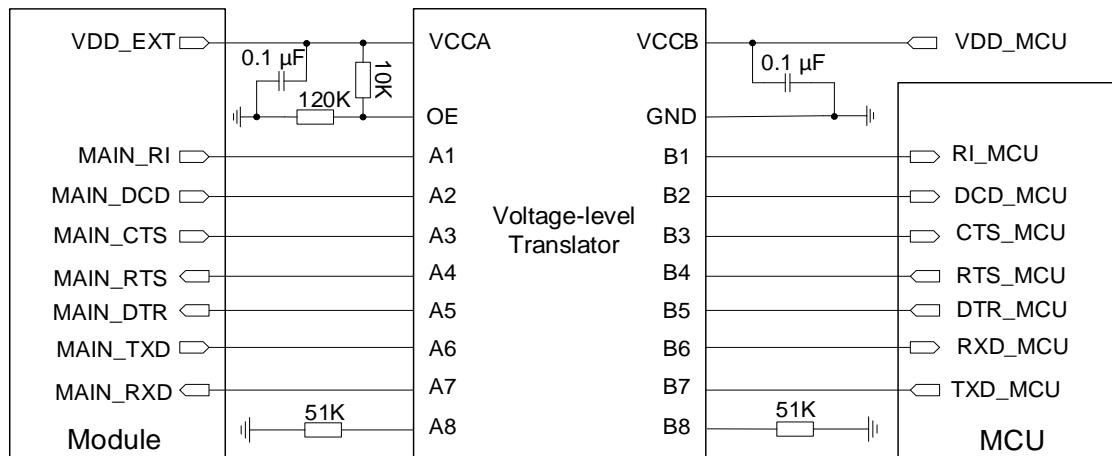
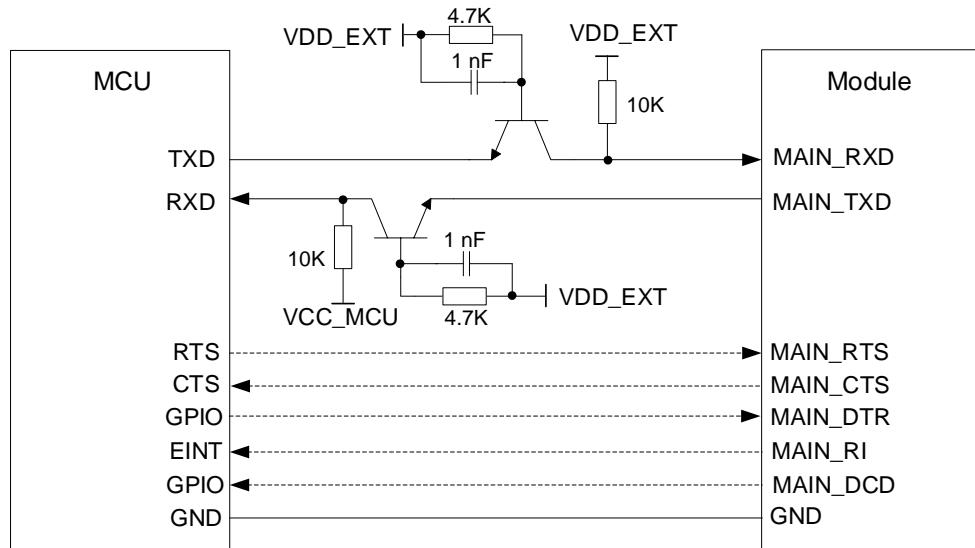

Figure 22: Reference Design of UART with a Voltage-level Translator (Main UART)
Figure 23: Reference Design of UART with Transistor Circuit (Main UART)
- The level-shifting circuits (**Figure 22** and **Figure 23**) take the main UART as an example. The circuits of the debug UART is connected in the same way as the main UART.